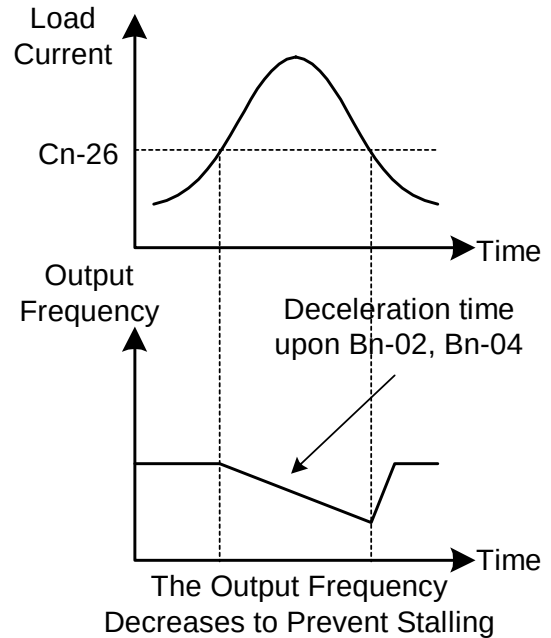

Figure 25 Stall Prevention During Running
- Stall Prevention During Running : See Figure 25. Deceleration is started if the Run Stall Prevention Level Cn-26 is exceeded, especially when an impact load is suddenly applied. Accelerates again when the current level is lower than Cn-26.